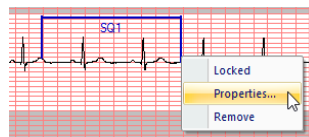

Figure 340 – Marker context menu
3. To edit the measurement properties, select the **Properties...** item in the displayed context menu (see Figure 340).